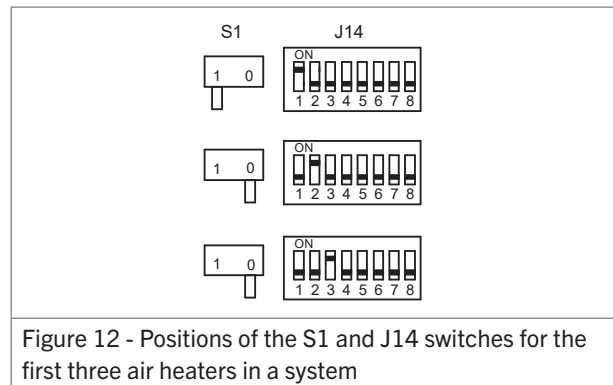

Figure 12 - Positions of the S1 and J14 switches for the first three air heaters in a system
1. Set the S1 and J14 switches on the control unit as follows (figure 12):